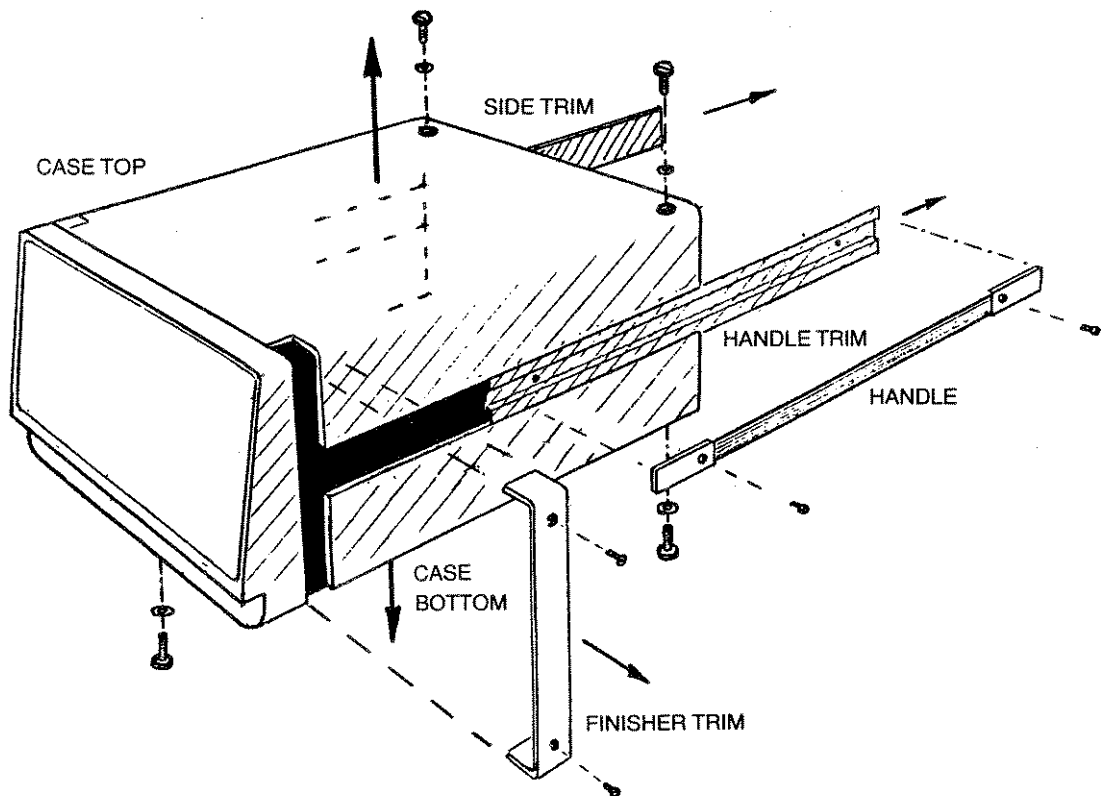

Fig. 2.9 Removal of trims, handle, top and bottom cases
1. Remove the following items from the unit, as shown in Fig. 2.9: